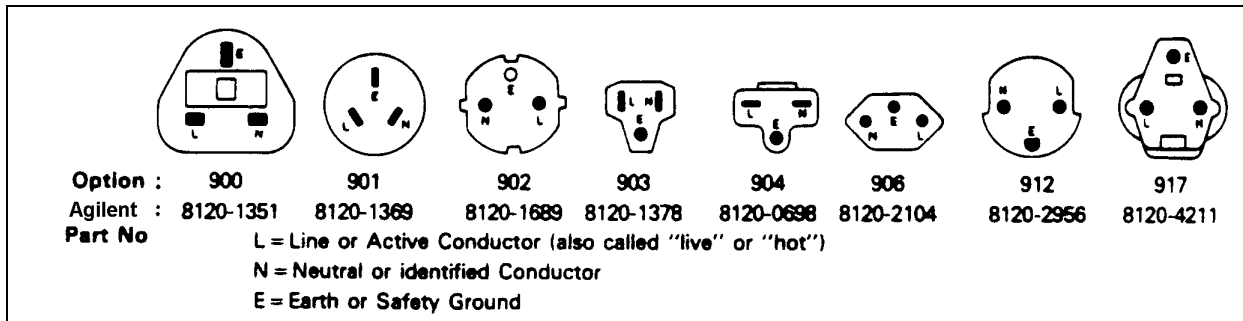

Figure 3-1. Power Cord Configurations
- Power Cord** Your Electronic Load was shipped with a power cord for the type of outlet used at your location. If the appropriate cord was not included, refer to Figure 3-1 for the part number and order option for your type of cord. Contact your nearest Agilent Sales and Service Office to obtain the correct cord. Refer to “*Check Line Voltage*” to check the line voltage selection and fuse type.
SHOCK HAZARD The power cord provides a chassis ground through a third conductor. Be certain that your power outlet is of the three-conductor type with the correct pin connected to earth ground (see Figure 3-1).